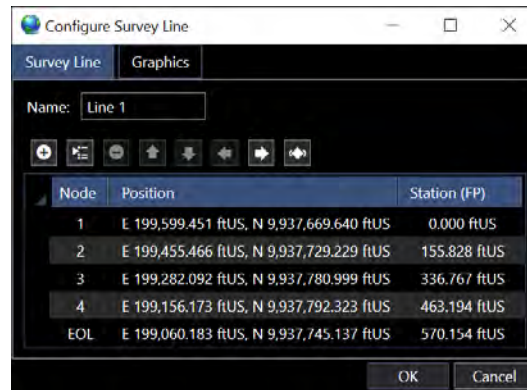

FIGURE 10-13 CONFIGURE SURVEY LINE DIALOG
- Click **Edit** to open the Configure Survey Line window (see Figure 10-13)